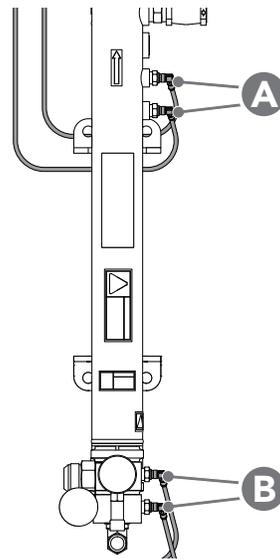

Figure 21. Modular DLV high-limit RTDs (A), control RTDs (B) and RTD plug detail (C).
2. Close isolation valves. Drain fluid from the oil heating tank. Locate the RTD that requires replacement. See *Fig. 21*.
3. Unscrew RTD plug. Remove plug. See *Fig. 21*.